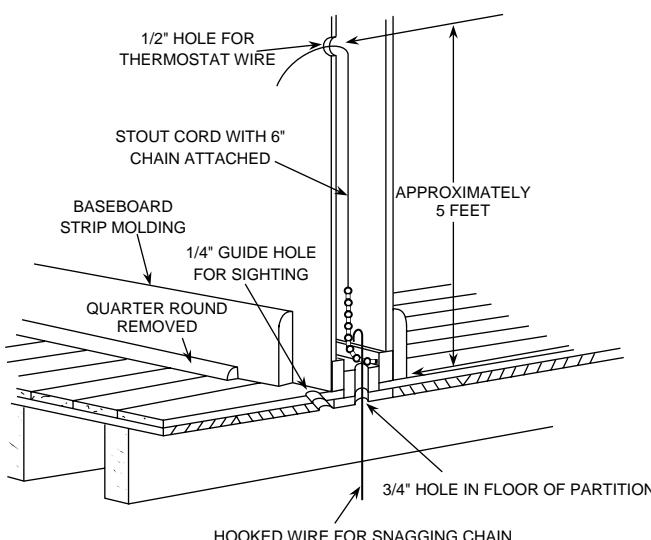

Figure 1. Routing Thermostat Wires
3. Probe for obstructions in partition before drilling $\frac{1}{2}$ " hole in wall at selected location. Take up quarter round and drill a small guide hole for sighting (see Fig. 1). From basement, drill $\frac{3}{4}$ " hole in partition floor next to guide hole. In houses without basements, drill $\frac{1}{2}$ " hole through ceiling and into partition from above (see Fig. 1).